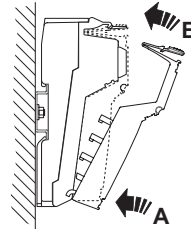

Figure 9-17 Snapping on a connector
- Plug the connectors into the base (Figure 9-17). First, insert the front connector shaft latching (A). Then press the top of the connector towards the base until it snaps into place (B).